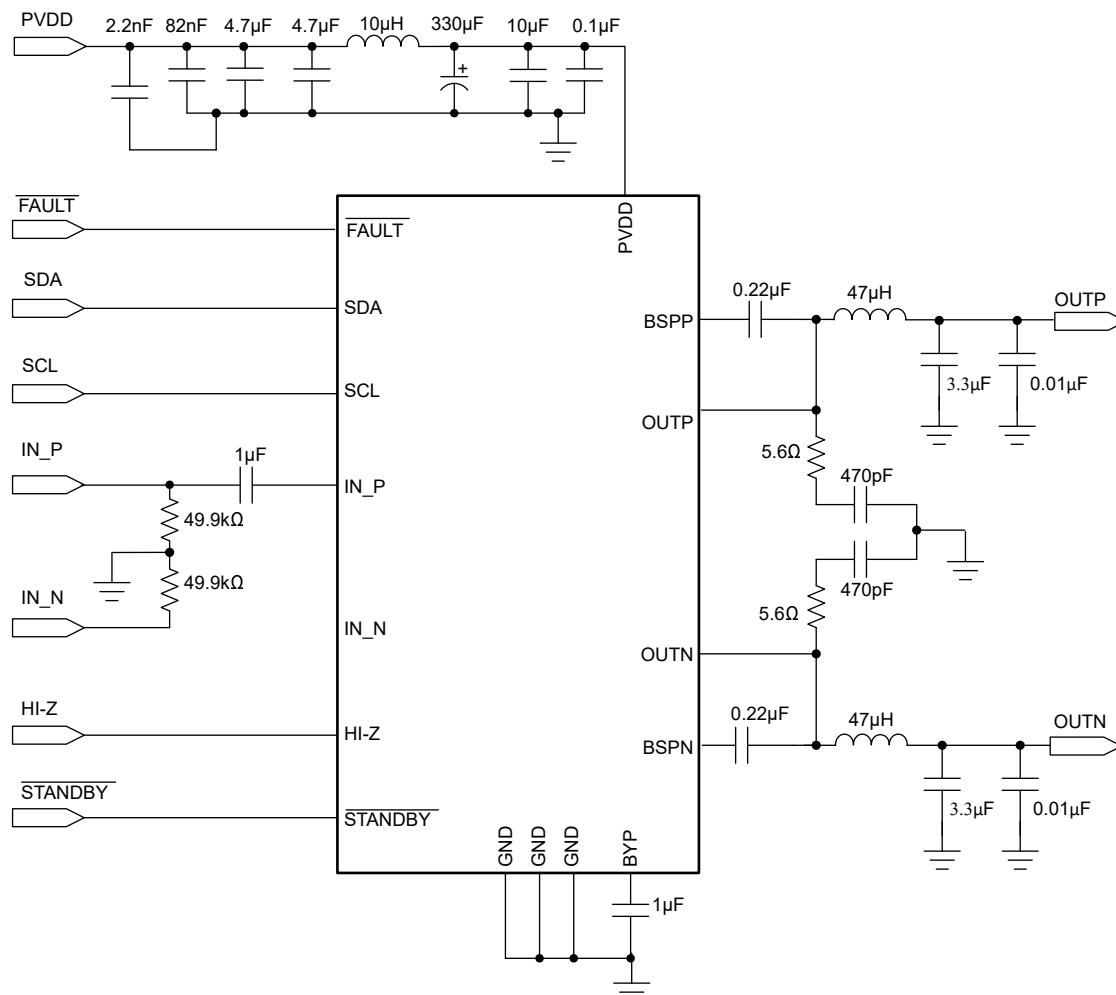

図 8-1. TSD5402-Q1 Typical Application Schematic
The output stage uses dual NMOS transistors; therefore, the circuit requires bootstrap capacitors for the high side of each output to turn on correctly. The required capacitor connection is from BSTN to OUTN and from BSTP to OUTP as shown in Figure 8-1.
- Step 1: Hardware Schematic Design: Using the Figure 8-1 as a guide, integrate the hardware into the system schematic.